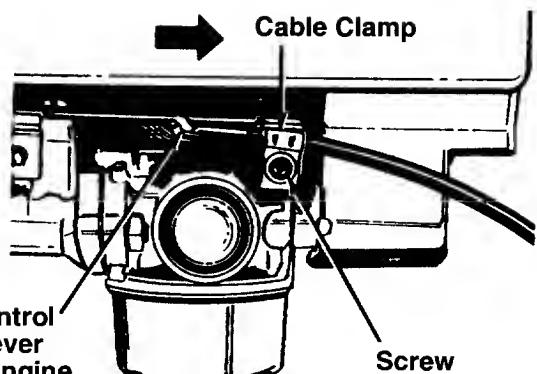

FIGURE 7B.—Tecumseh Engine
- NOTE:** If you have a Tecumseh engine, simply loosen the screw shown in figure 7B so the cable will move freely beneath the clamp. It is not necessary to remove the screw and clamp completely.